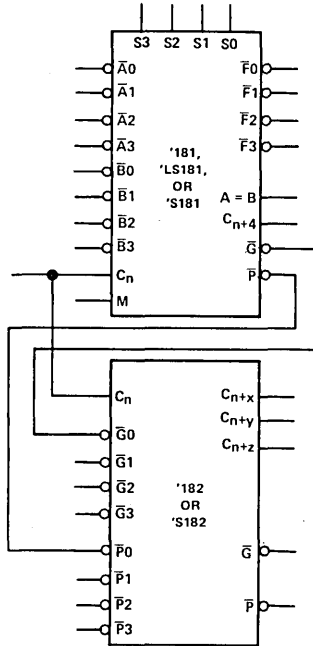

FIGURE 1
The '181, 'LS181, and 'S181 together with the '182 and 'S182 can be used with the signal designations of either Figure 1 or Figure 2. The inversion indicators (O) and the bars over the terminal letter symbols (e.g., \bar{C}) each indicate that the associated input or output is active with respect to the selected function of the device when that input or output is low. That is, a low at \bar{C} means "do carry" while a high means "do not carry".
The logic functions and arithmetic operations obtained with signal designations of Figure 1 are given in Table 1; those obtained with signal designations of Figure 2 are given in Table 2.